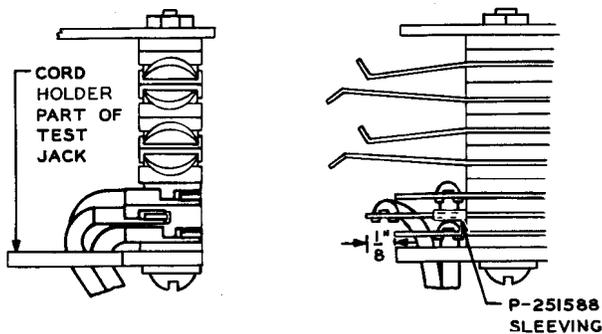
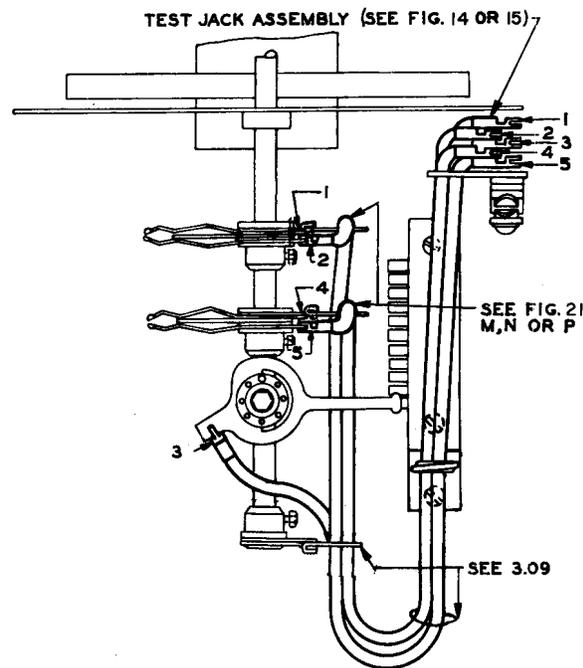
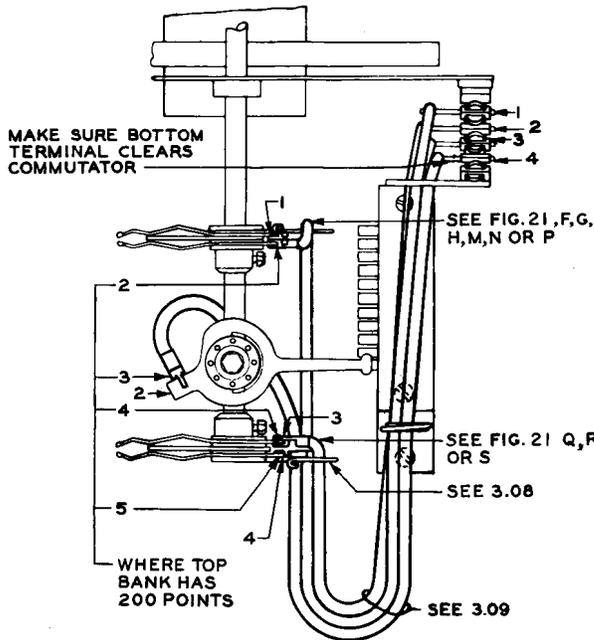
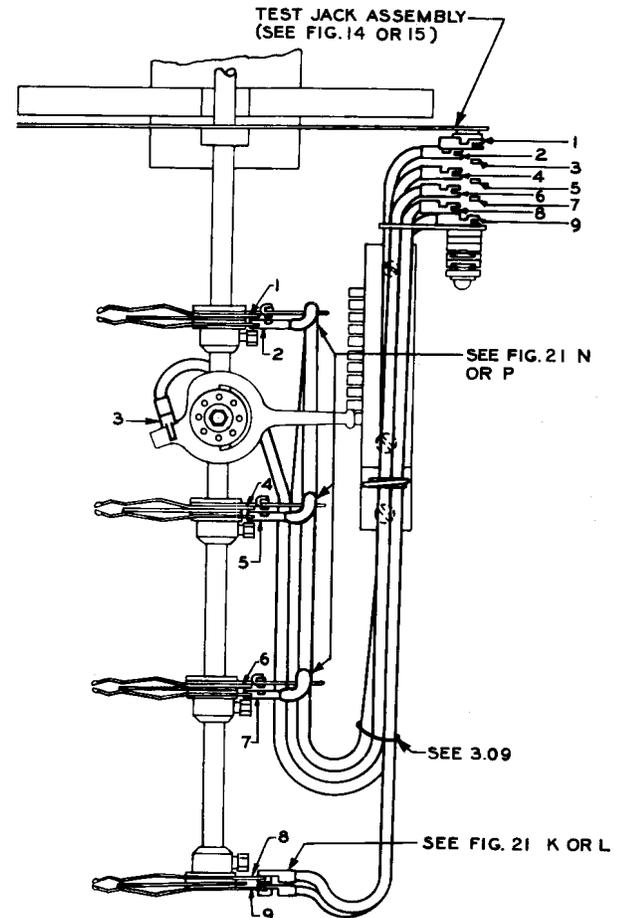

Fig. 14—Method of Dressing and Connecting Wiper Cords at Test Jack Assembly
Fig. 17—Method of Attaching MIR Wiper Cords to Switches Equipped With One Bank and a Commutator
Fig. 18—Method of Attaching M1R Wiper Cords to Switches Equipped With Two Banks and a Commutator
Fig. 22—Method of Attaching M1R Wiper Cords to Switches
3.03 To connect new cords, attach one end of the cords to terminals of the test jack as shown in Fig. 17 through 20 and Fig. 22. Pass the cords through the cord holder at the test jack assembly, through the cord holder or cord holders on the commutator (on switches so equipped), and through the cord holder or cord holders (where furnished) on the wiper assemblies to similarly numbered wiper terminals as indicated by the numbers (1), (2), etc, on the above figures. Dress the cords at the test jack end as shown in Fig. 14 or 15.
3.09 It is permissible to tie the cords in a bundle with a single strand of No. 25 gray linen thread at the points indicated in Fig. 17, 18, 20, and 22 in cases where the cords are likely to snag on the bank rods or bank rod collars. On switches equipped with a commutator not having a cord holder at the lower end, tie the cords in a bundle at this point.
Assembly: Where the test jack terminals are of unequal length, or where the assembly has test jack and cord terminals in separate pileups, unsolder the cords from the terminals. Where the terminals are of equal length, cut off approximately 1/8 inch from each terminal in the outer row with the diagonal pliers. Unsolder the cords from the inner row of terminals, and place a sleeve over each of these terminals as shown in Fig. 14. Where the test jack assembly is equipped with a cord holder having the hole lengthwise, as shown in Fig. 16B or 16C cut off the cord holder using the diagonal pliers. Then substitute a new cord holder at the bottom of the test jack assembly as described in 3.16 when the switch is not equipped with a commutator. When the switch is equipped with a commutator, mount a cord holder on the commutator as described in 3.17.
3.39 When replacing the wiper assembly on switches having three or four banks (Fig. 22), mount the upper and middle assemblies with the hub turned down and mount the bottom assembly with the hub turned up. When replacing assemblies on switches having one bank (Fig. 17), mount both assemblies with the hubs turned down. When replacing the assemblies on switches having two banks (Fig. 18), mount the upper assembly with the hub turned down and the lower assembly with the hub turned up, except on the 197CM switch where all assemblies shall be mounted with the hubs up. Place the new assembly in position, tighten the hub setscrew firmly, and reconnect the wiper cords to the wiper terminals.